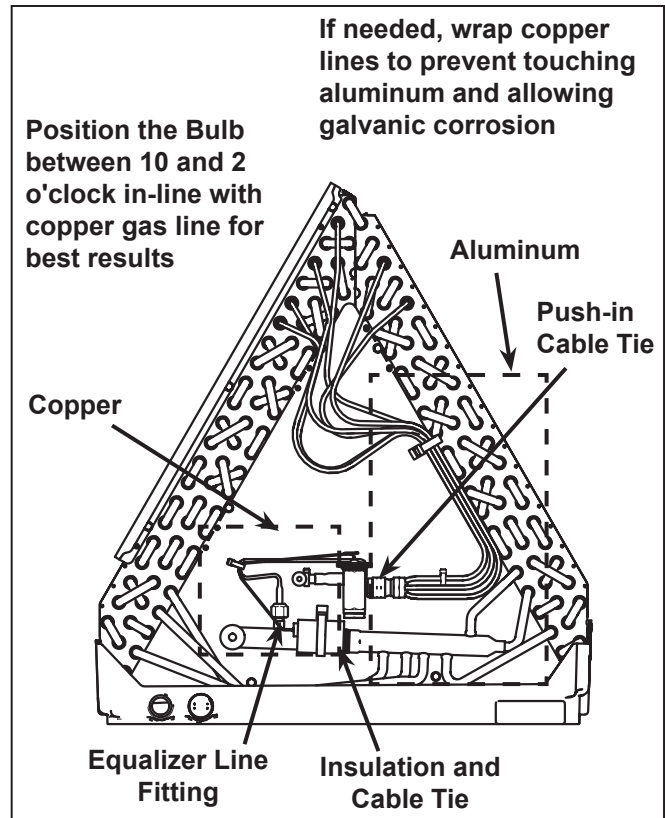

Figure 4
6. Connect the TXV equalizer line to the equalizer port. Hand-tighten until flare bottoms. Use a back-up wrench to tighten securely (Figure 4).
9. Wrap the bulb with supplied insulation and secure with supplied cable tie (Figure 4).